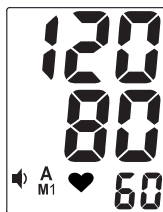

Fig.16
3. You can view the memory contents by pressing M1 or M2 button. When M1 (or M2) button is pressed for the first time, the average value of the last 3 measurements stored in M1 (or M2), indicated by «A» symbol (Fig. 16), will be displayed. When M1 (or M2) button is pressed again, the indicator of the selected memory M1 (or M2) and the cell number will be displayed, showing its contents (Fig. 17) duplicated by a voice message 1 second later. Each press of M1 (or M2) button takes you to the next memory cell.